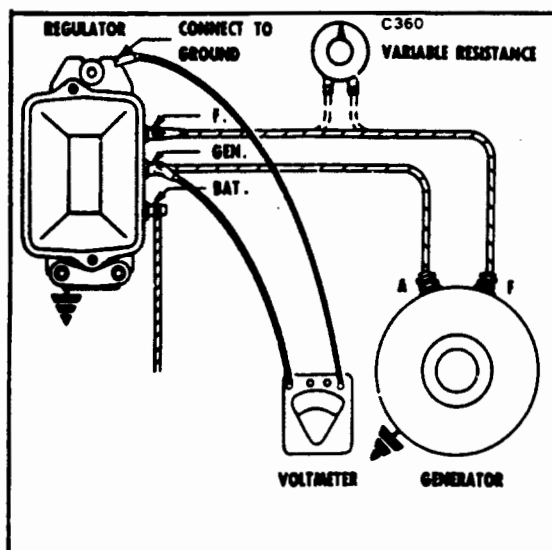

Figure 11-12. Checking Cutout Relay Closing Voltage
a. Air Gap: Place fingers on armature directly above core and move armature down until points just close and then measure air gap between armature and center of core. (Refer to Figure 11-12.) On multiple contact point relays, make sure that all points close simultaneously. If they do not, bend spring finger so they do. To adjust air gap, loosen two screws at the back of relay and raise or lower the armature as required. Tighten screws after adjustment.
c. Closing Voltage: Connect regulator to proper generator and battery. Connect voltmeter between the regulator "GEN" terminal and ground. (Refer to Figure 11-12.)
Method 2: Make connections as in step c; but, in addition, add a variable resistor connected into the field circuit. (Refer to Figure 11-12.) Use a 25-ohm 25-watt resistor. Operate generator at medium speed with variable resistance turned all in. Slowly decrease (turn out) the resistance until cutout relay points close. Note closing voltage. With cover in place, slowly increase (turn in) resistance to make sure points open.